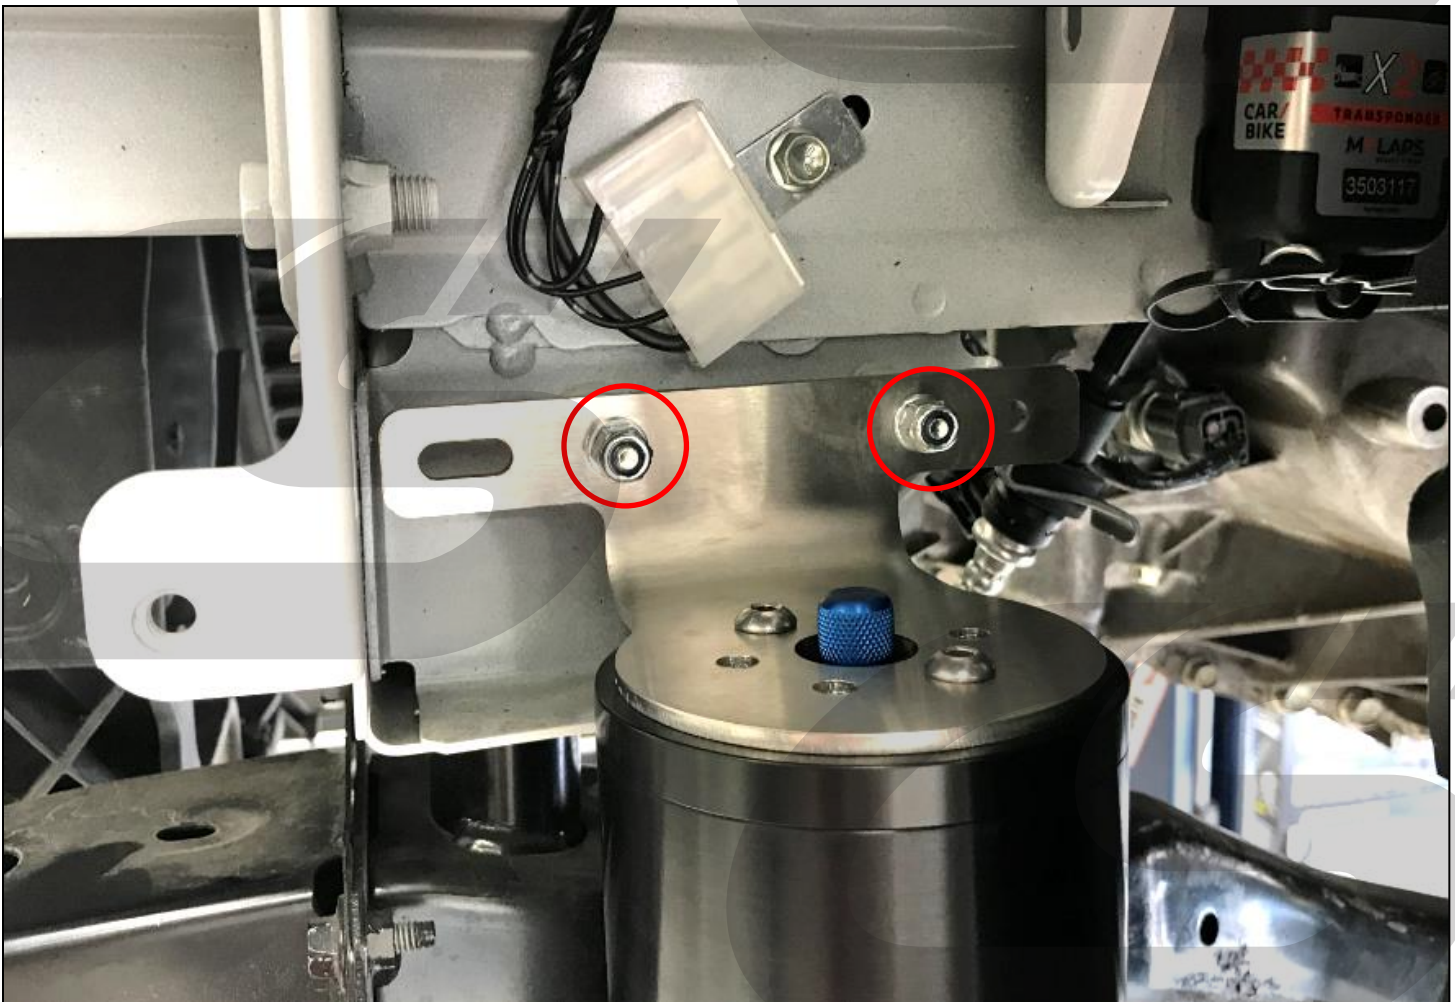

Figure 2g
- i) **Install and hand tighten the small OD washer and M6 nylock nuts shown in Figure 2g.**